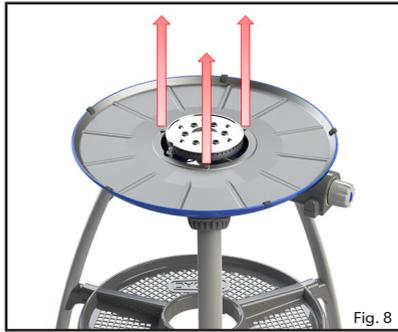

Fig. 8
- To replace the jet: Remove the three screws from the heat shield plate (Fig. 8). Remove the heat shield plate (Fig. 9), taking care not to damage the piezo electrode. The jet can now be removed using a suitable spanner (Fig. 10). Do not use pliers on the jet as this may damage the jet, making it unusable or impossible to remove. Screw the new jet into the valve. Do not over-tighten as this may damage the jet.